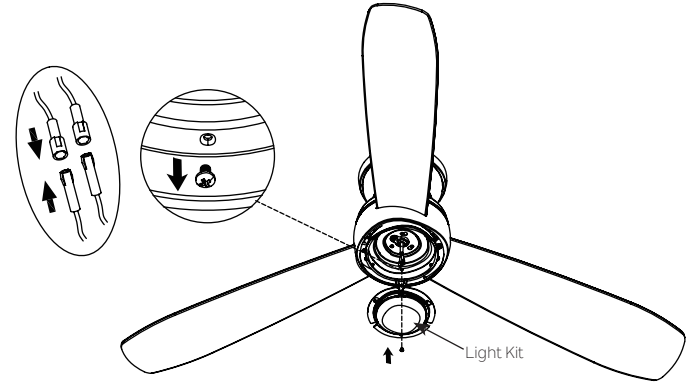

Fig. 15
Step 1. Hold the light kit close to the switch housing and connect the **WHITE** wires from the light kit and fan by pushing the connectors together. Follow the same procedure with the **BLACK** wires. (Fig. 15)
Step 2. Tuck the connections neatly into the light kit. Remove one of three screws pre-installed on the switch housing and keep for later use. Loosen the other two (do not remove). Place the two slot holes on the light kit over the 2 screws previously loosened from the switch housing. Rotate the light kit until it locks in place at the narrow end of the key holes. Secure by tightening the 2 screws previously loosened and the one previously removed. (Fig. 15)